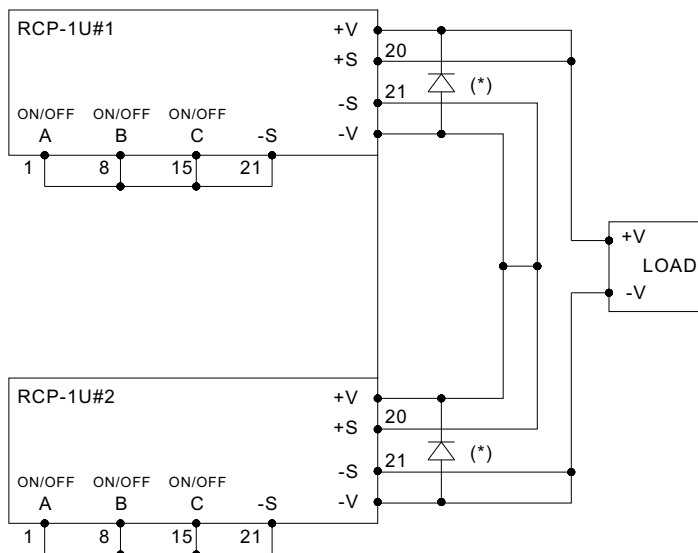

Figure 3-8: Operating in series connection
- ⊙ The racks (RCP-1U□) connected in series should have the same single unit (RCP-1000-□) in each rack. Please refer to Figure 3-8 for the reference connection method.
- ⊙ It is suggested to add on external diodes shown in Figure 3-8 to prevent the reverse voltage. Rating of these diodes should be higher than the total amount of output voltage and current.